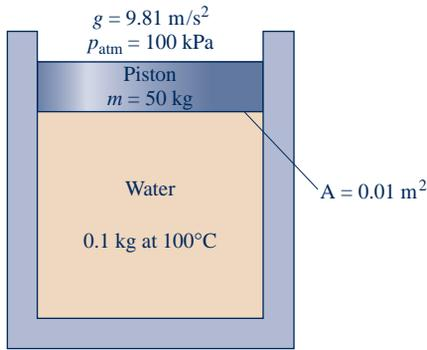

Fig. P3.22
- 3.22** As shown in Fig. P3.22, 0.1 kg of water is contained within a piston-cylinder assembly at 100°C . The piston is free to move smoothly in the cylinder. The local atmospheric pressure and acceleration of gravity are 100 kPa and 9.81 m/s^2 , respectively. For the water, determine the pressure, in kPa , and volume, in cm^3 .